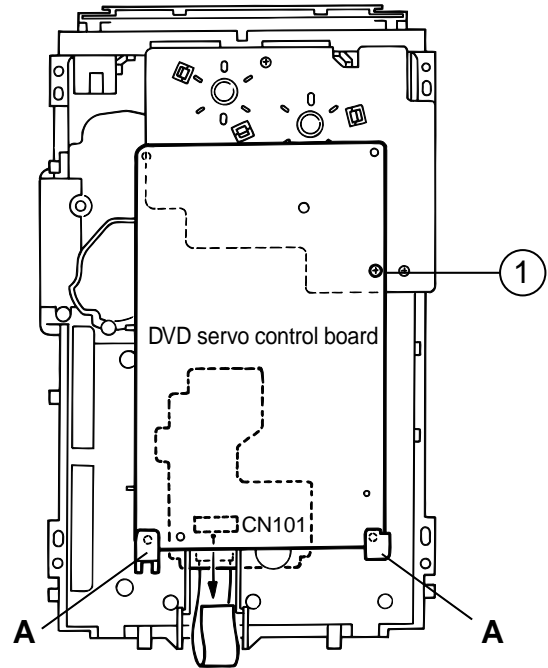

Fig.1
■ Removing the front cover (See Fig.1, 2)
Note: Because it is difficult to take away the cover, insert a minus driver, etc. in the place between the main body and the front cover as shown in Fig.1 before removing the front cover. Exercise care not to damage the main body and the front cover when inserting the minus driver. For this purpose, insert the minus driver together with cloth and the like.
■ Removing the DVD Servo control board (See Fig.1)